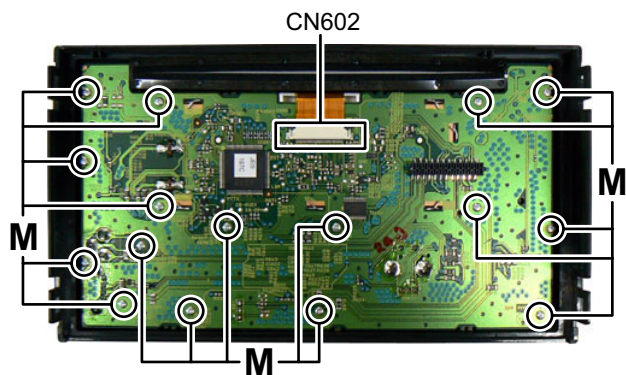

Fig.7
3.1.5 Removing the Switch board (See Fig.7)